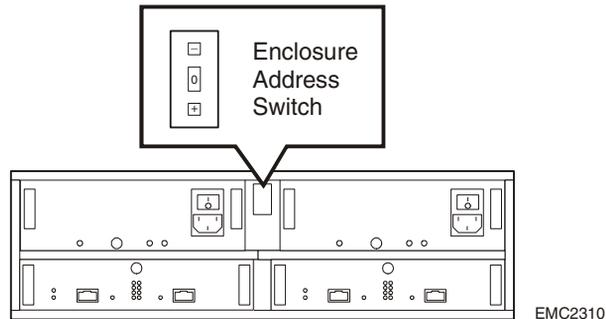

Figure 2-1 Setting the Enclosure Address (EA)
1. Set the enclosure address to the desired value, as shown in Figure 2-1.